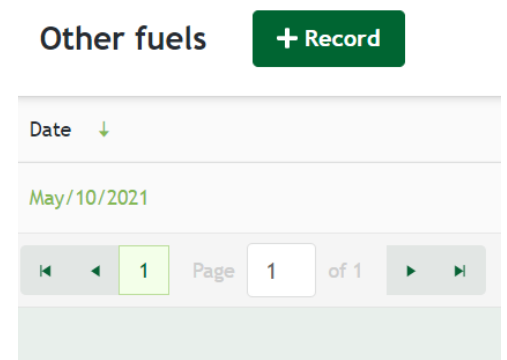

Figure 12
2. A screen will open as shown in figure 12.